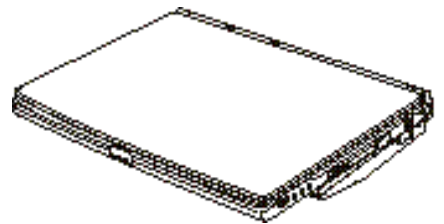

Figure 1-2 LifeBook L Series Notebook (L440-B)
- **Detachable Bay (docked to your notebook).** (Figure 1-2.)